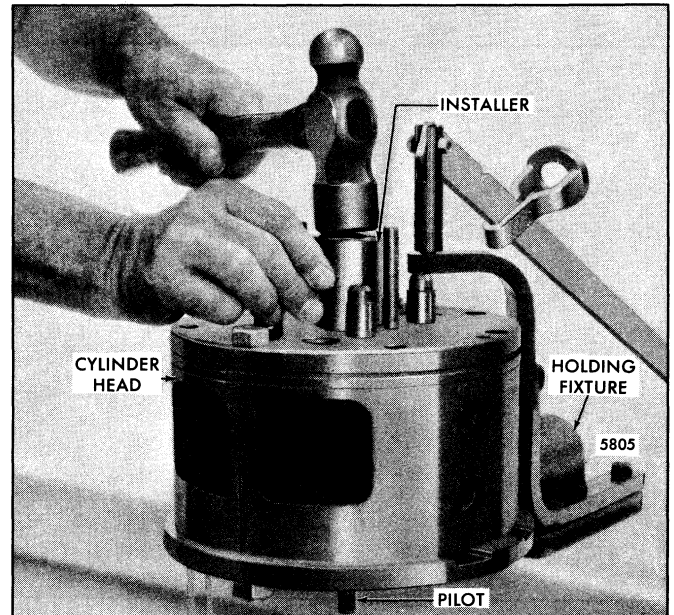

Fig. 2 - Installing Injector Tube
2. Place the installer J 22342-1 in the injector tube. Then insert the pilot J 22342-3 through the small opening of the injector tube and thread it into the tapped end of the installer (Fig. 2).
3. Slip the injector tube and tool assembly in the injector bore and drive them in place (Fig. 2). The flange at the upper end of the tube will seat on the seal ring and into the counterbore of the cylinder head when the injector tube is properly positioned. Then remove the installer and pilot.